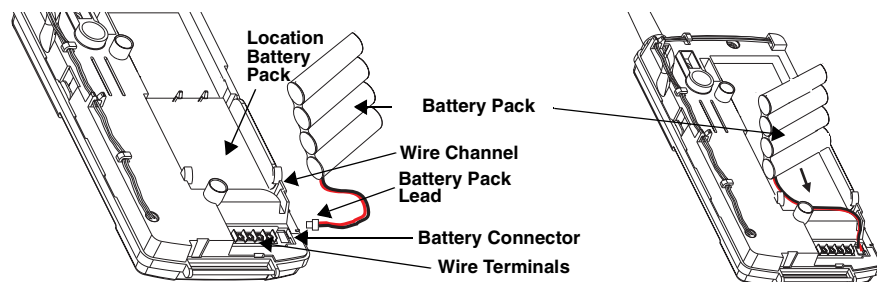

Figure 5. Connecting the Battery Pack
- Slide the battery pack into the space provided on the back of the panel (Figure 5).
- Plug the battery pack lead into the slot provided next to the wire terminals (Figure 5).